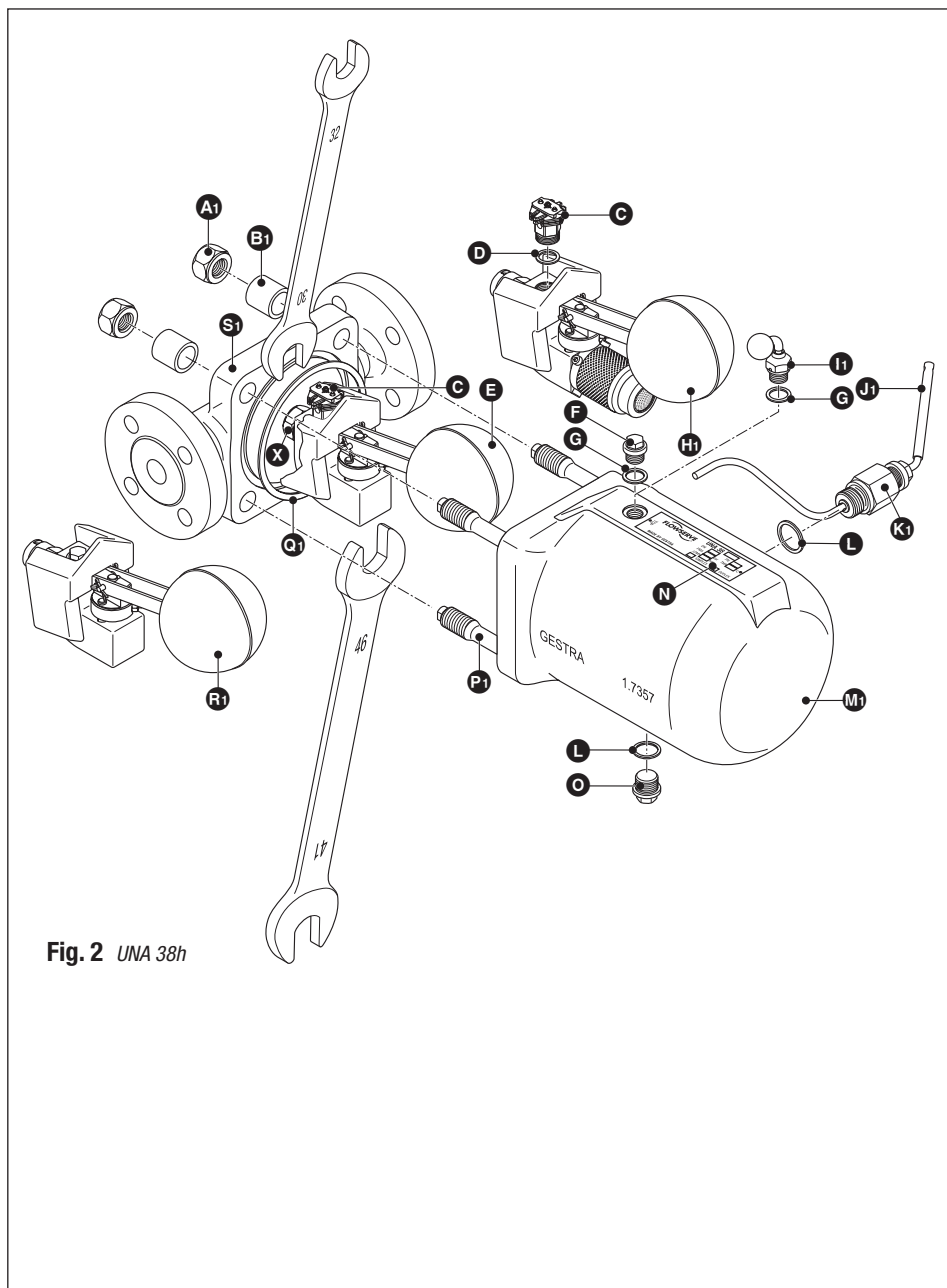
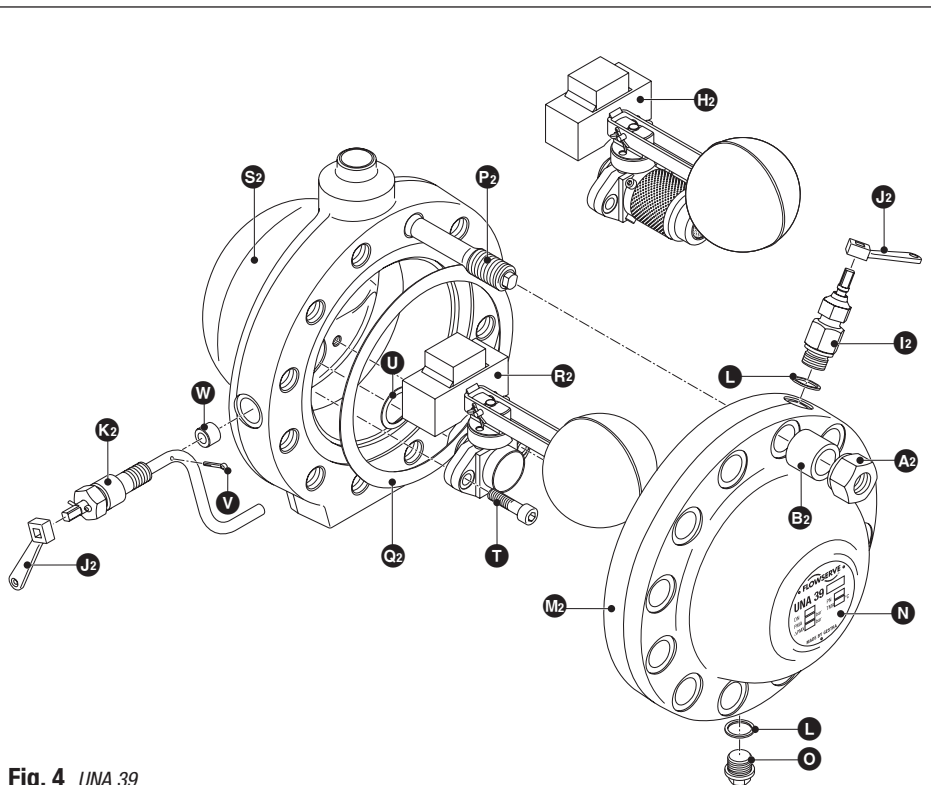

Fig. 2 UNA 38h
Fig. 4 UNA 39
1. Attach the handle **J** to the float lifting lever **K**. (See **Fig. 2** and **Fig. 4**)